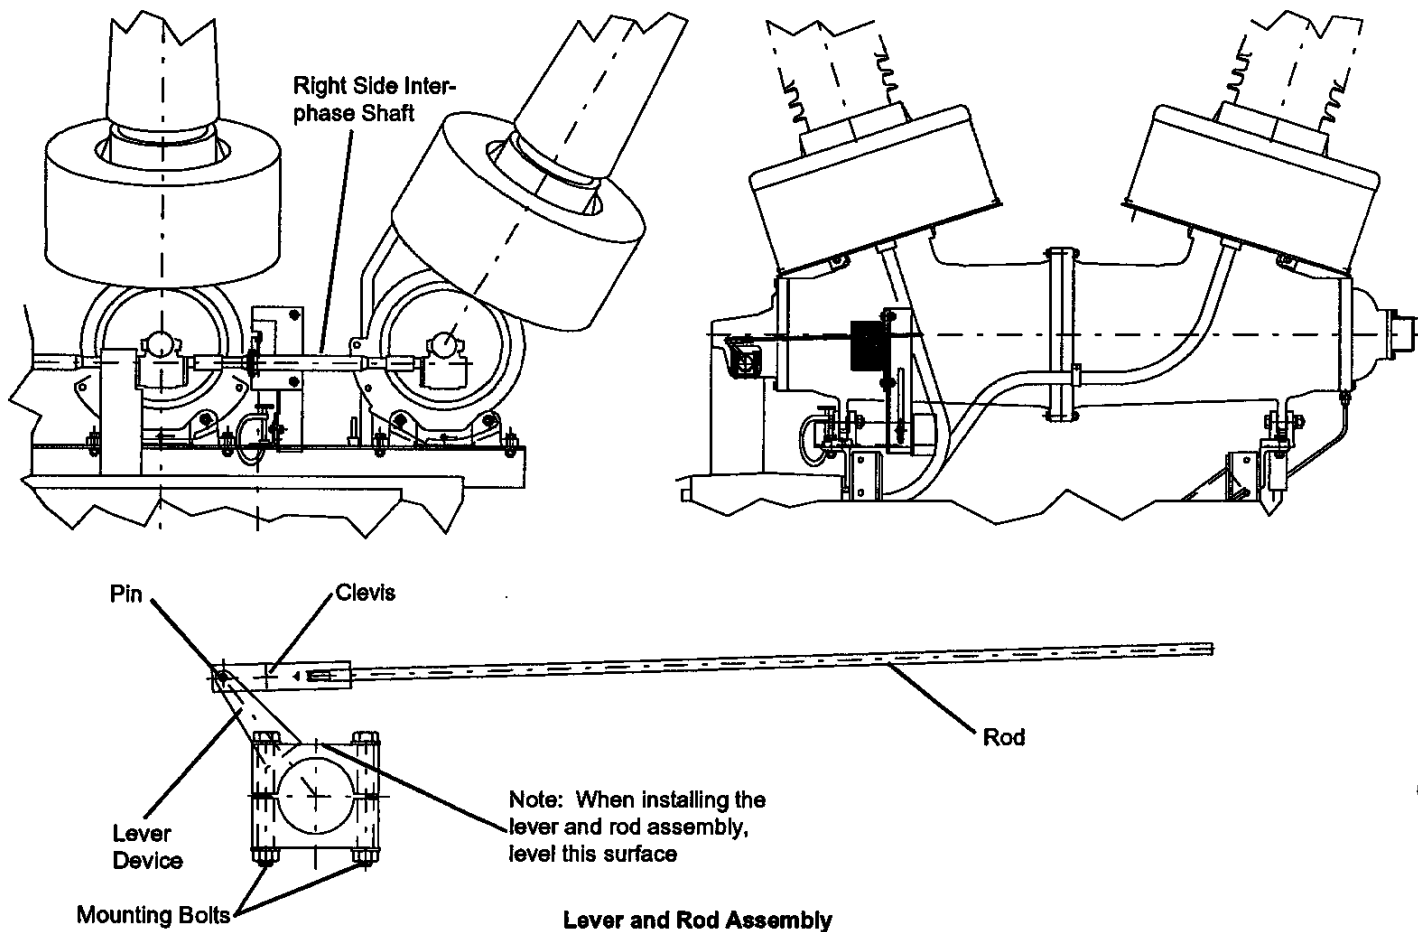

Figure 7
4. Loosely clamp the lever and rod assembly (Fig. 7) to the right side interphase shaft (at approximately the location shown in Fig. 7) using the mounting bolts provided with the kit. (The exact location where the assembly is clamped is not critical.)
5. While tightening the lever and rod assembly mounting bolts, place a level across the surface of the lever device as shown in Fig. 7 to level this surface of the lever device as closely as possible.
7. Mount the transducer mounting bracket and transducer onto the horizontal member of the breaker structure (using C-clamps) as shown in Figure 7 so that the rod of the lever and rod assembly aligns with the slider or rollers, etc. of your transducer.